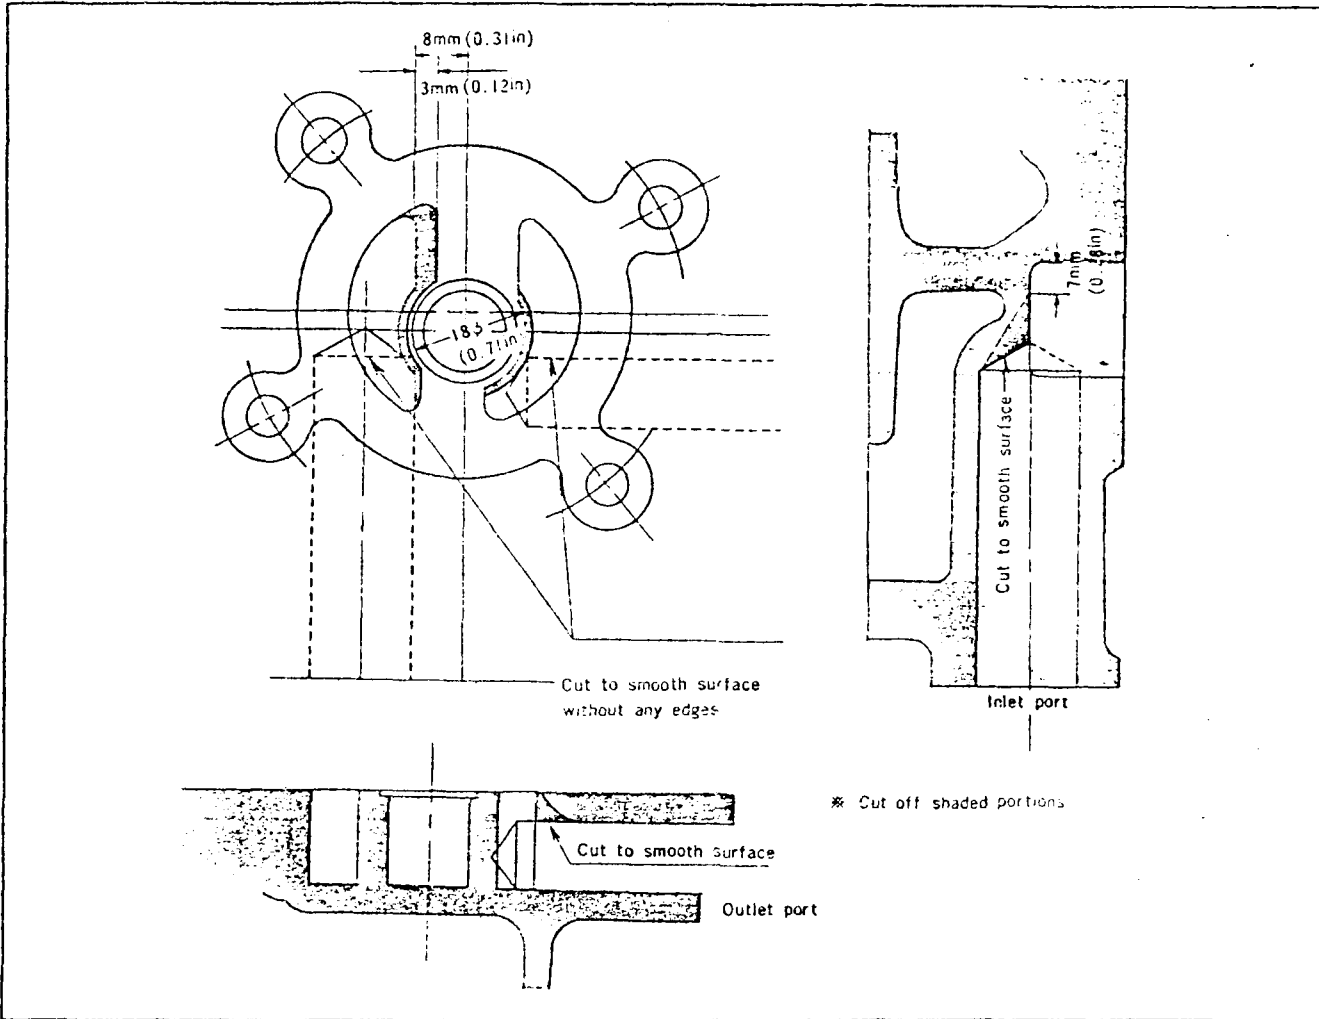

Fig. 2-15 Cutting of Oil Pump Body
- 3) Enlarge the port using a hand cutter (rotary bar 5 mm (0.20 in) dia). Smoothly cut each corner of the oil passage to as large radius as possible. (See Fig. 2-15)